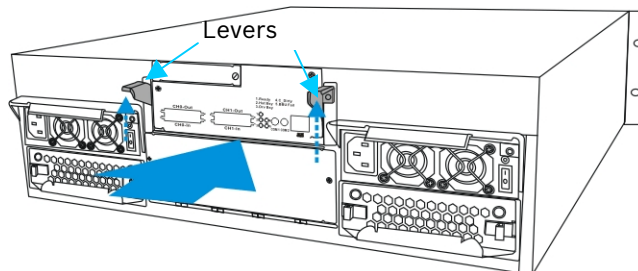

Fig. 6.4 Lifting the Controller Module Latches Upward
4. Reposition the controller module. Once fully inserted, lift up the levers at the back of the controller module. This will set the controller module in the correct position. (See *Figure 6.4*)